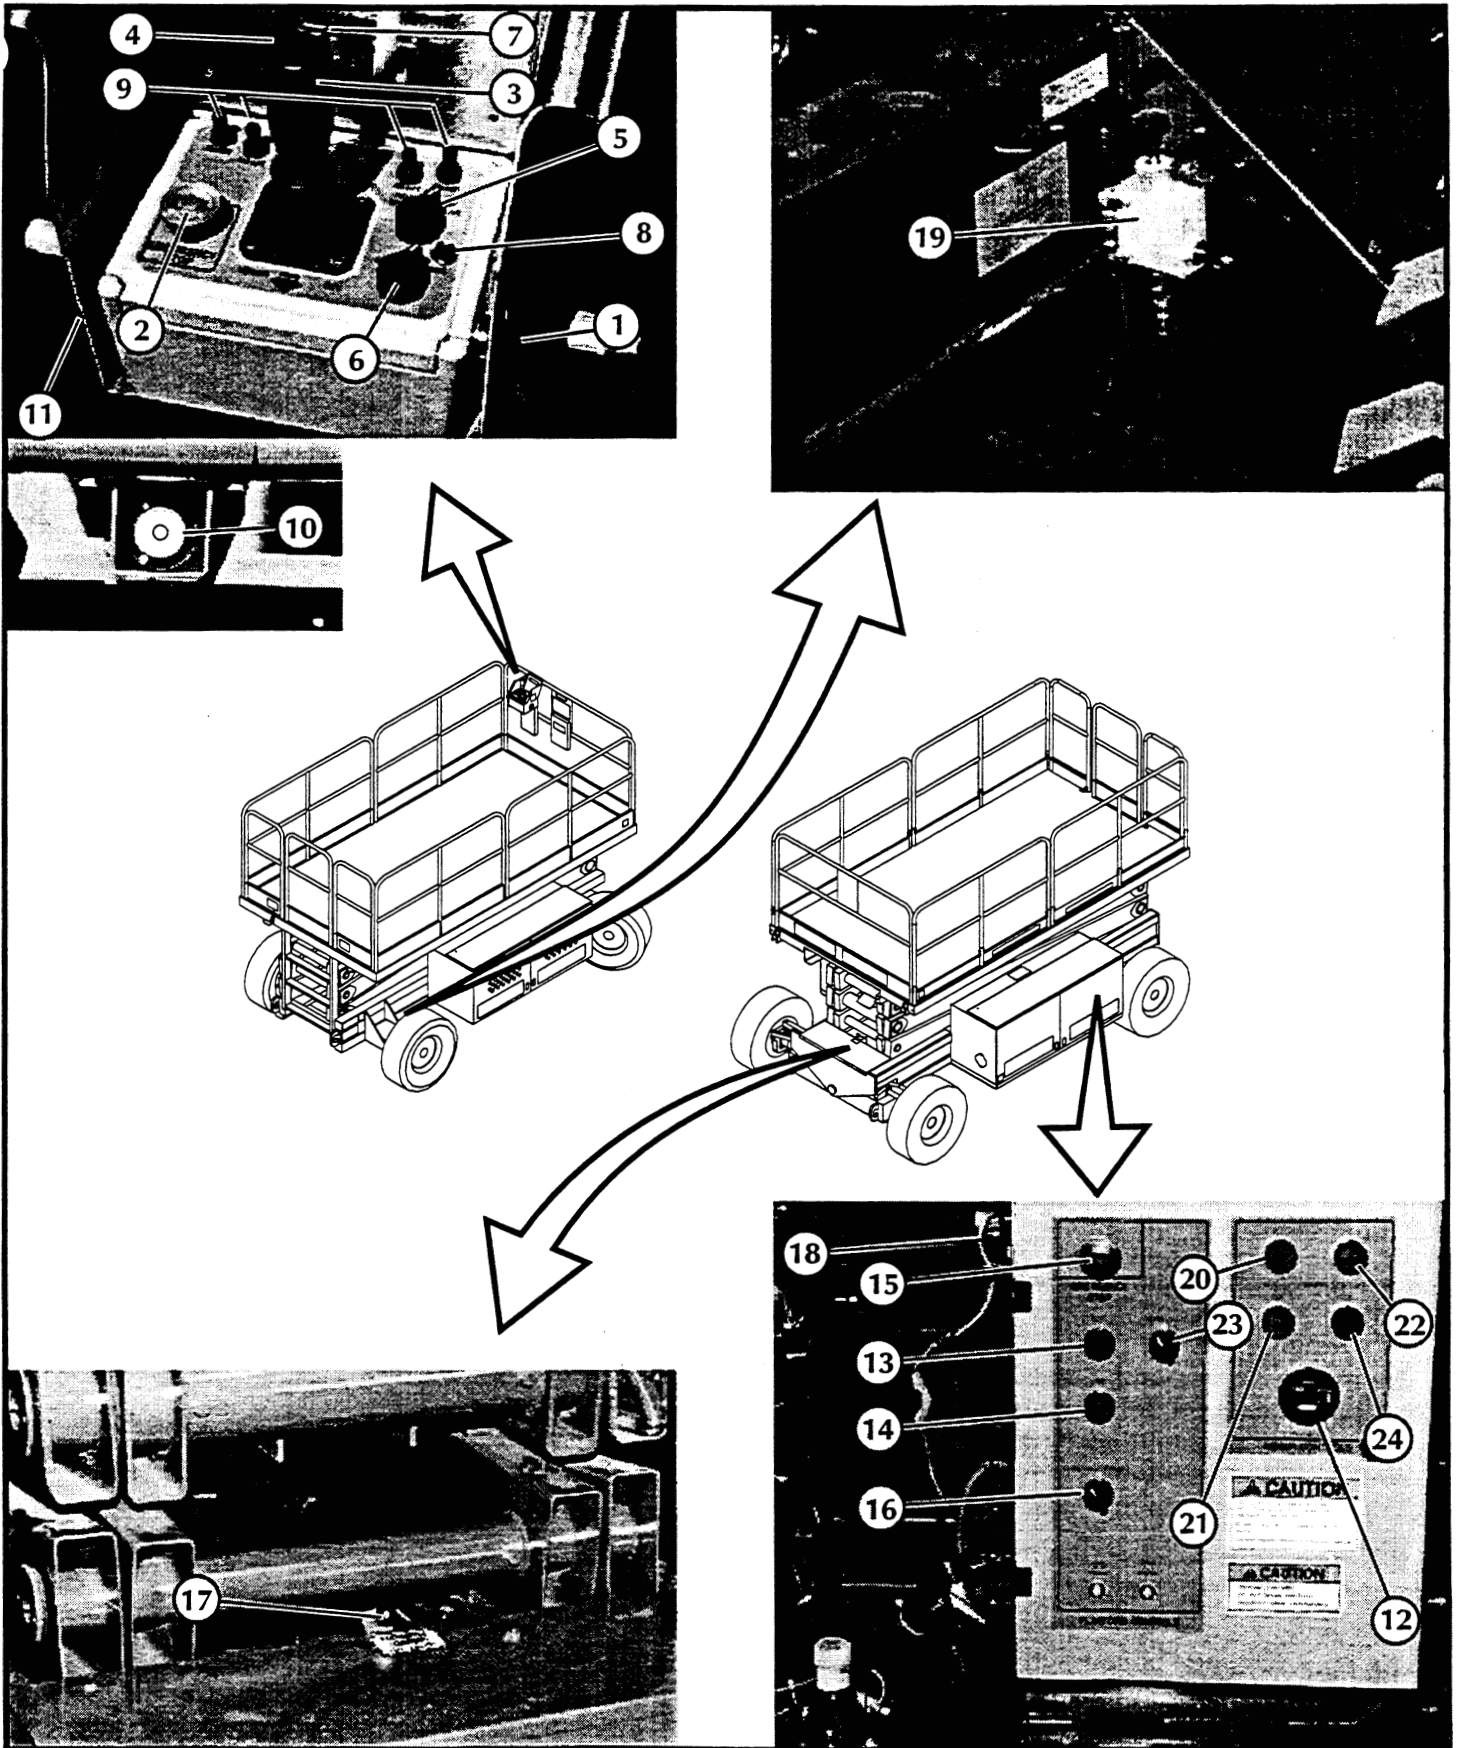

Figure 3-1: Controls and Indicators
The controls and indicators for operation of the LX50 Work Platform are shown in Figure 3-1. The name and function of each control and indicator are listed in Table 3-1. The index numbers in Figure 3-1 correspond to the index numbers in Table 3-1. The operator shall know the location of each control and indicator and have a thorough knowledge of the function and operation of each before attempting to operate the unit.
8. Place chassis and platform emergency stop switches in the ON position (Figure 3-1) by pulling the buttons out.
9. Verify platform/chassis switch is on **PLATFORM** (Figure 3-1).
14. Open the chassis emergency lowering valve (Figure 3-1) to check for proper operation by pulling and holding the knob out. Once the platform is fully lowered, close the valve by releasing the knob.
The emergency lowering valve is located at the front of the machine at the base of the scissor assembly, (Figure 3-1).
1. With engine running turn the fuel selector switch (Figure 3-1) to the center position.
## 3.5 Parking Brake Release (Figure 3-1)